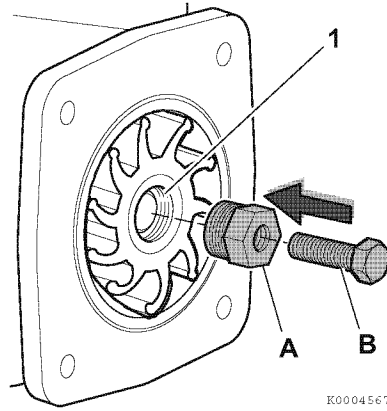
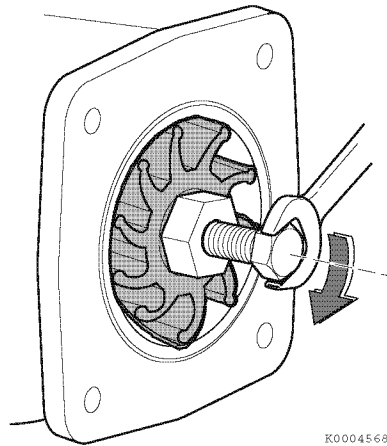

Figure 17
Figure 18
*Note: When replacing a used impeller with a new one, the impeller must have an M18 x1.5 thread (**Figure 17, (1)**). Turn the M18 screw side of the impeller to the cover side and install (**Figure 18**).*